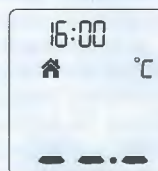

Figure 4
1. Press the **⏻** BUTTON to turn on the thermometer, you can take the object temperature after hearing two beep sounds. (see figure 4)